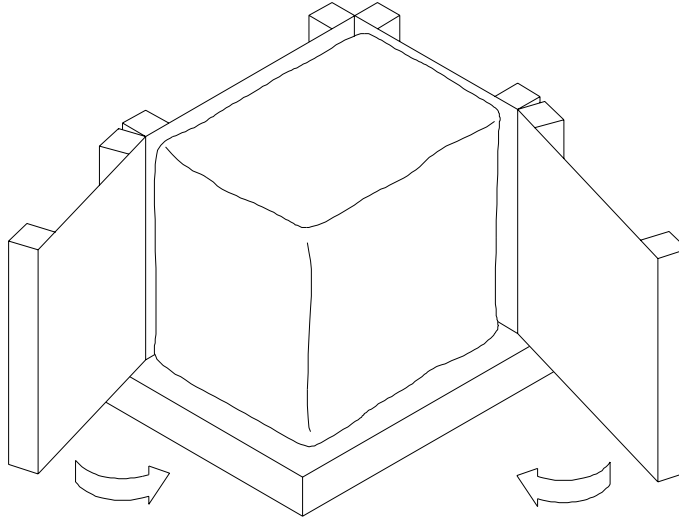

Figure 6-7 Placing the cushioned packaging around the library
4. Place the cushioned packaging around the library, as shown in Figure 6-7.